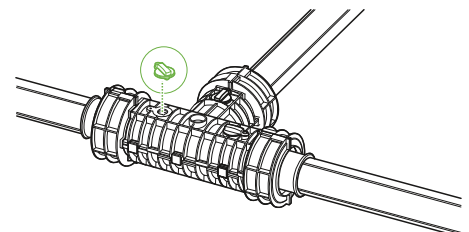

Fig. B12.1.10
9. Close the filling hole with a cap, ensuring that the air vent hole remains open (Fig. B12.1.10).